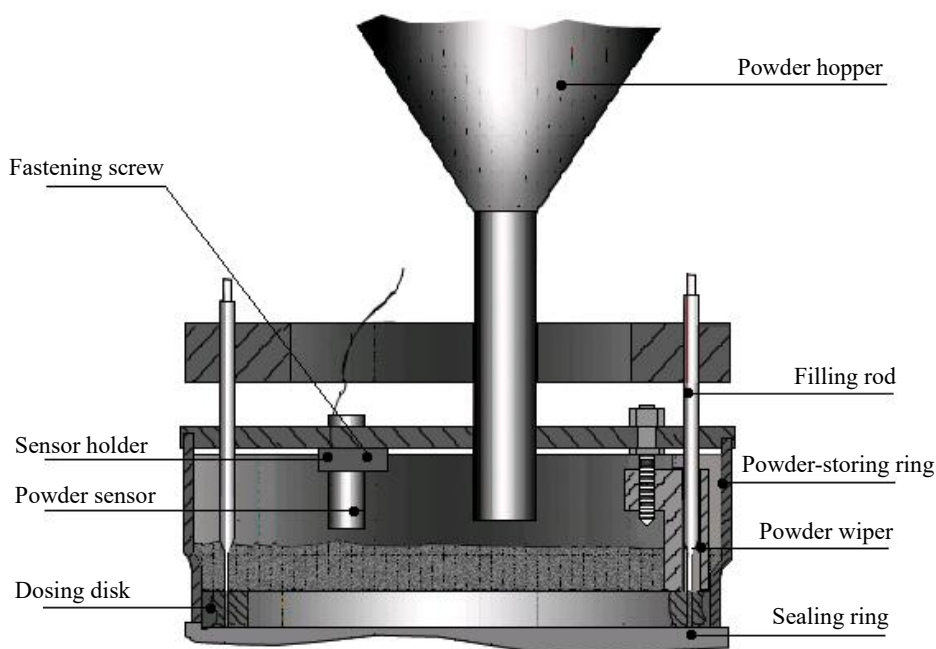

Fig. 22 Adjustment of Powder Height Sensor
5.2.8 Adjustment of powder height sensor (refer to Fig. 22)